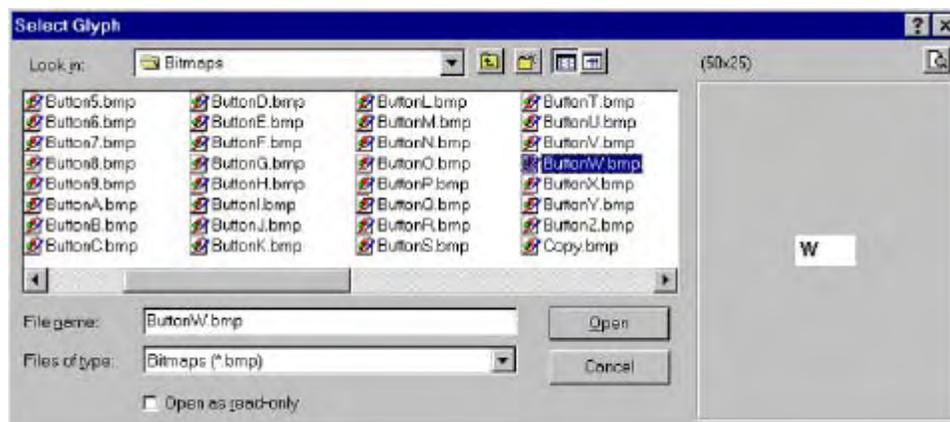

Figure 74. Select Glyph Dialog Box
2. From the **Customize Buttons** dialog box, open the bitmap browser by selecting the button to the right of the **Bitmap** text field. The **Select Glyph** dialog box appears, displaying the contents of the bitmap directory (Figure 74).
3. Highlight the file Button W.bmp. Select **Open** and the image appears on the right of the dialog box (Figure 74).